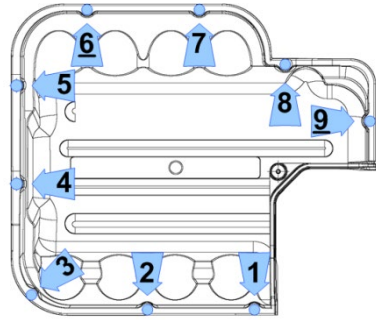

Figure 1 – Top Cover Torque Sequence
2. Place the Top Cover and secure it with the nine (9) M5x15 screws according to the following sequence. Follow the sequence twice. The first time, only fasten screws half way down to allow for adjustments. Torque to 13 in.lb. on the second pass. Refer to Figure 1 (Top Cover Torque Sequence).